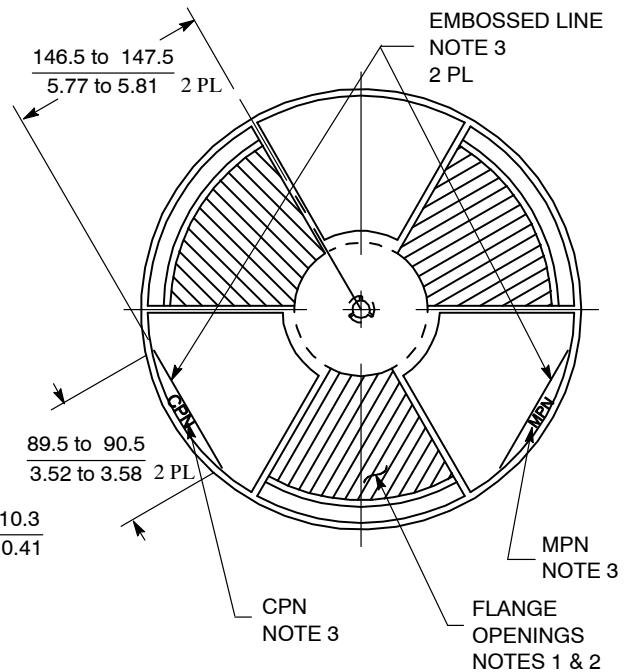

Figure 41. Front View of 330 mm (12.99 in) Reel
- If there are any flange opening on the front flange of the 330 mm (13.0 in) reel they must be designed in locations so that two of the 41.3 mm (1.65 in) by 125 mm (4.90 in) ON Semiconductor barcode labels can be applied parallel to each other as in Figure 41.